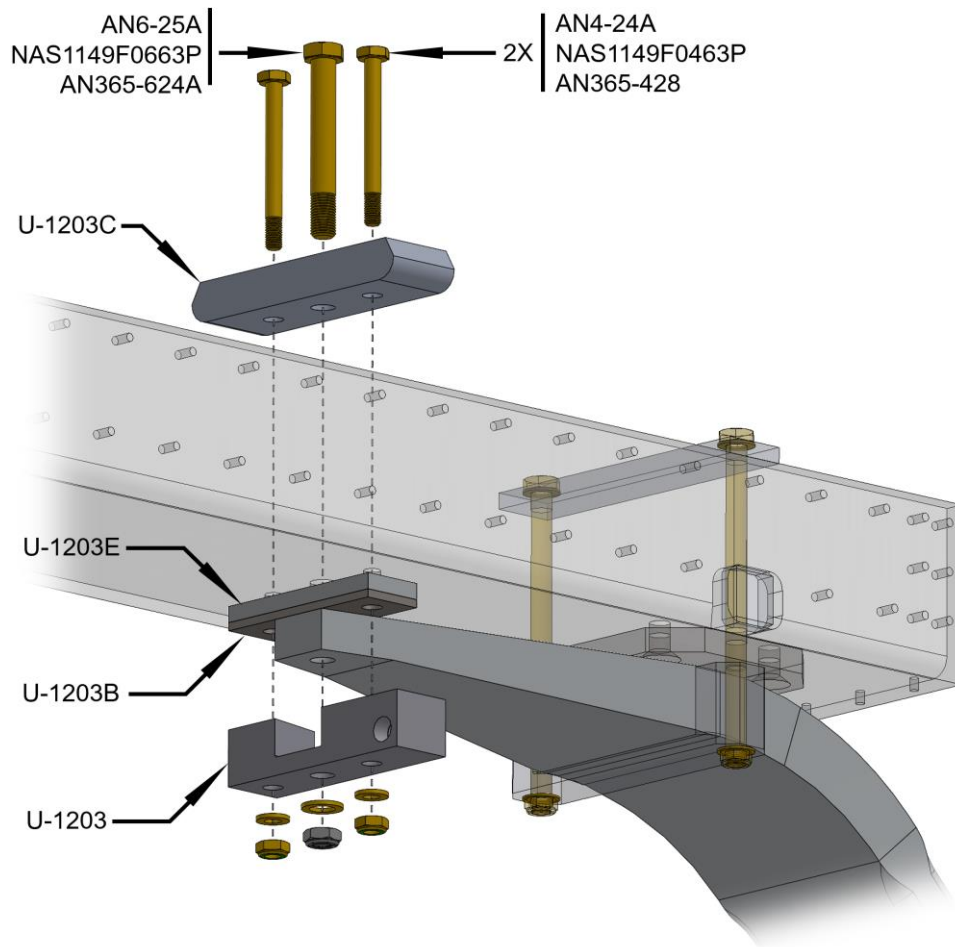

FIGURE 13: INSTALLING THE INBOARD ATTACH BRACKET (RIGHT SIDE SHOWN)
NOTE: The U-1203C Doubler Plate is not symmetric in the up-down direction. The radiused edge should be oriented downwards, onto the F-1204E Landing Gear Beam, and the sloped side should be towards the top. Refer to Figure 13.
Step 50: Install the U-1203B Inboard Wear Plate, U-1203E Inboard Doublers, U-1203 Inboard Main Gear Attach Bracket, and U-1203C Doubler Plate into the right side of the airplane using the hardware called out in Figure 13. Spacers can be used between the floor and the tire to appropriately position the inboard end of the leg.